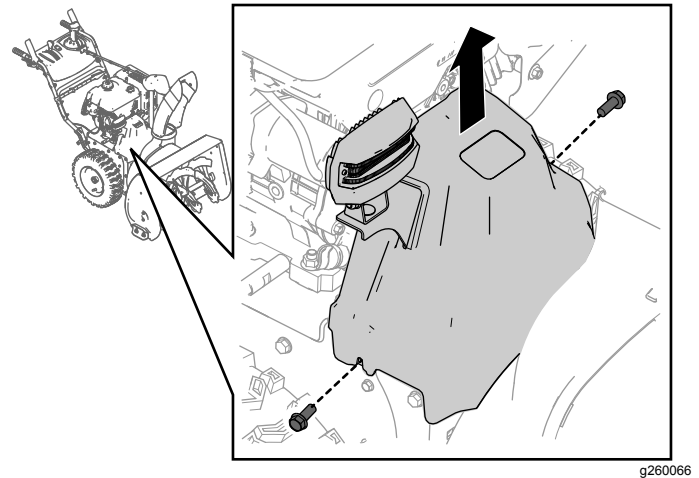

Figure 25
1. Remove the 2 screws that are holding the belt cover in place (Figure 25).
2. Remove the belt cover (Figure 25).